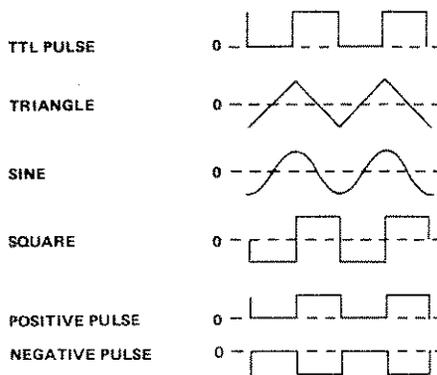

Figure 3-3. Pulse/Waveform Phase Relationship and Waveform Reference Lines
(8) Synchronizing Pulse Output Connector
A fixed amplitude (0 to about 5V) TTL pulse of the generator frequency is provided at the PULSE OUT connector. This output can be used as a synchronizing reference for the main output (6). Phase of the waveforms relative to the sync output is shown in figure 3-3.
(9) DC OFFSET Control
Offset of waveforms and dc voltage are controlled by the DC OFFSET control. The WAVEFORM switch (10) must be in one of the four right-hand settings. Center of the waveform reference (figure 3-3) is skewed positive with clockwise rotation, negative with counterclockwise rotation. Offset and dc voltage maximums are ±5V (50Ω terminated).
(10) WAVEFORM Selector